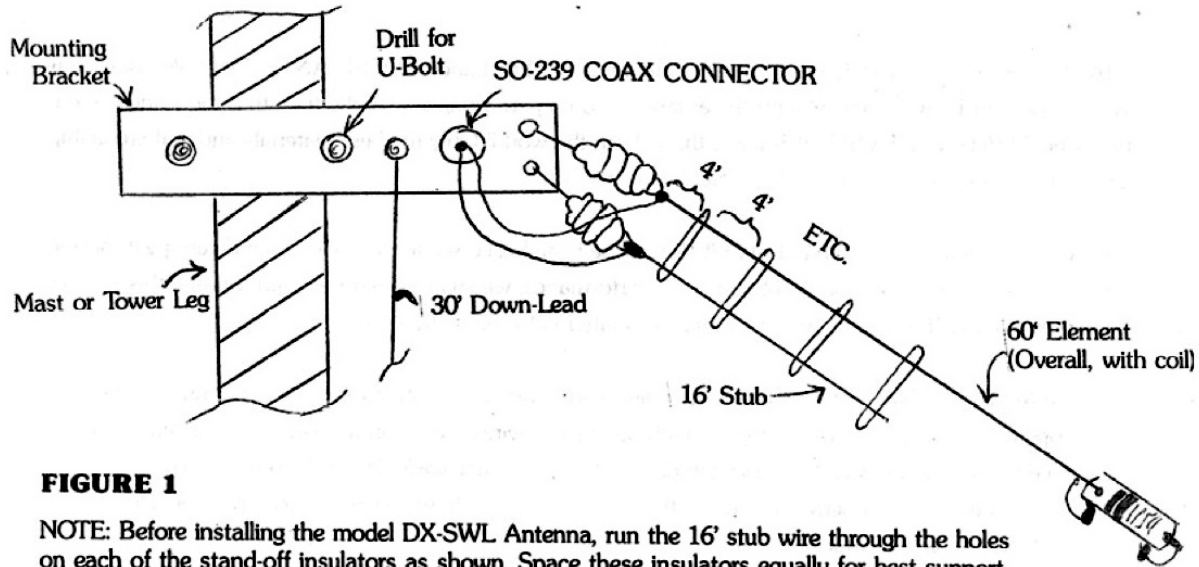

FIGURE 1
Please study the graphics on FIGURES 1 and 2, and read the written instructions for the installation procedure before beginning your assembly and installation.
1. Unroll the sloper wire elements, removing any kinks that may have been induced in packing or shipping. For the **Model DX-SWL** you will find one wire element approximately 60 ft. long with two “ISO-RES” (tm) inductors installed, one 16 ft. stub wire to be threaded through the installed pre-drilled stand-offs, and a 30 ft. “down lead” wire which will be run down the support as shown. **Refer to FIG. 1** for assembly. The **Model DX-SWL-S** is the same but eliminates Element C and the last coil and is just 40 ft. long. It is for restricted space applications and covers 90 through 13 meters, with the same performance across those ranges as the longer **Model DX-SWL**.
2. **Refer to FIG. 1.** For tower leg or mast mounting, the aluminum mounting bracket will have to be drilled to accept a U-Bolt, user supplied. One hole already exists on the mounting bracket. For other installation types, simply attach a rope through the existing bracket hole, with the other end of the rope attached to your mounting point.